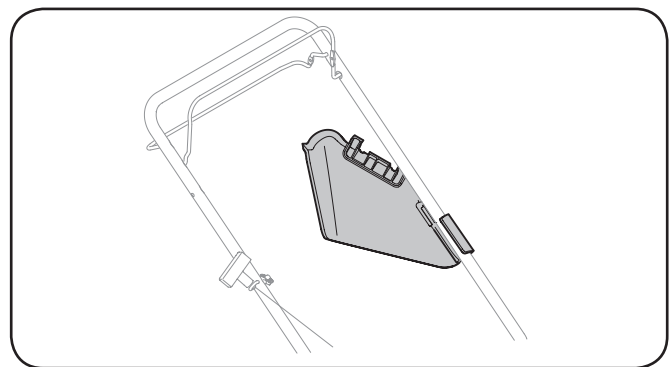

Figure 7-3
- Secure side discharge chute to handle (if applicable) as shown in Figure 7-3.